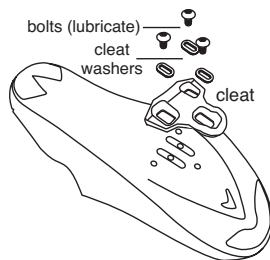

Figure 4
1. Place the cleat on the outside of the shoe with the cleat's curved side down and over the three bolt holes. (Fig. 4)